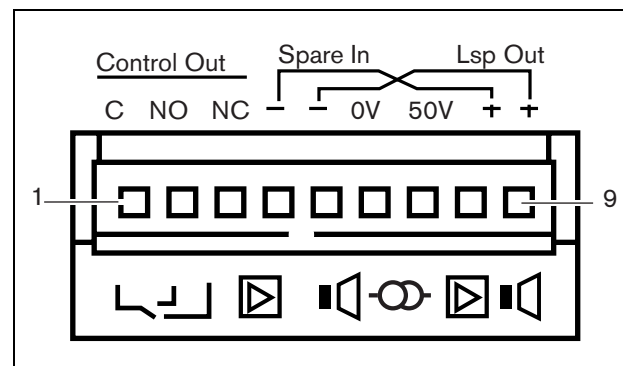

figure 6.3: Amplifier channel connector
An amplifier channel (see figure 6.3) is a group of outgoing signals that have been processed by the same amplifier unit of the power amplifier. The number of amplifier channels depends on the type of power amplifier (see table 6.2)
Each amplifier channel has one control output. The control output can be used to send signals to third party equipment to trigger actions. Each control output has three pins (see figure 6.3). The common (C) pin of the control output should always be connected. Whether the other pin that is connected is the normally closed (NC) or normally open (NO) depends on which action you want to take place when the control output is active (see table 6.4).